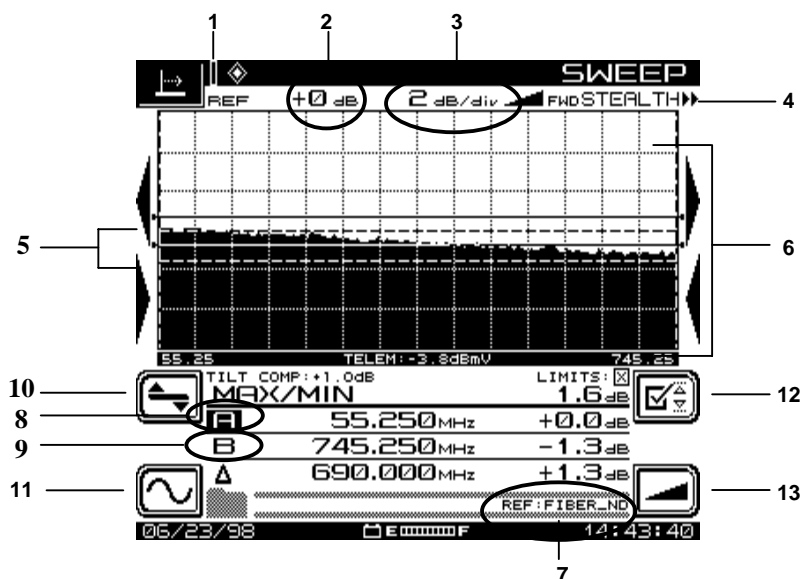

Fig. 4-10 The SWEEP Screen
- **Show Horizontal Markers:** The horizontal markers continuously track maximum and minimum values in the area of the graph between the vertical markers (see Fig. 4-10). Use the up and down diamond keys to display the markers.
The Sweep function has four operating modes, Stealth, Transmit, Loopback, and Sweepless. The current sweep mode is indicated in the upper right-hand corner of the screen (see Fig. 4-10). The Stealth mode allows sweep insertion points to be injected in vacant spectrum areas. The Loopback mode enables you to perform a rough frequency response, gain, and loss test on active and passive devices in the field. The Sweepless mode only measures actual system carriers. Any system carrier can be used as a data point, even scrambled or digital carriers. In either mode, a previously stored response can be used as a reference to the current measurement. Sweep references are selected in the File setup menu (see “Sweep References” in Chapter 11, page 201). The Transmit mode operates the same as the Scan mode with these exceptions: sweep telemetry is transmitted, sweep points are injected, and sweep point levels are displayed (see “Scan Measurements” in Chapter 6, page 115).
You can get to the SWEEP screen (see Fig. 4-10) through the NAVIGATOR or by pressing the SWEEP measurement mode key under lower right corner of the screen.
Call up the frequency screen from the SWEEP screen (Fig. 4-10) by pressing the soft key in the lower left corner.
Call up the level screen from the SWEEP screen (Fig. 4-10) by pressing the soft key above the Frequency Submenu icon.
Call up the limit screen from the SWEEP screen (Fig. 4-10) by pressing the top soft key on the right side of the screen.
Call up the tilt screen from the SWEEP screen (Fig. 4-10) by pressing the bottom soft key on the right side of the screen.
NOTE: Many of the icons and other display features of the reverse SWEEP screen are identical to those shown in Fig. 4-10.